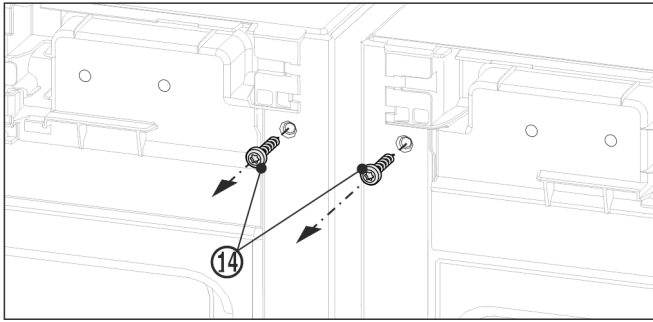

Fig. 11
- Before fitting the top bracket remove both earthing screws *Fig. 11 (14)*.